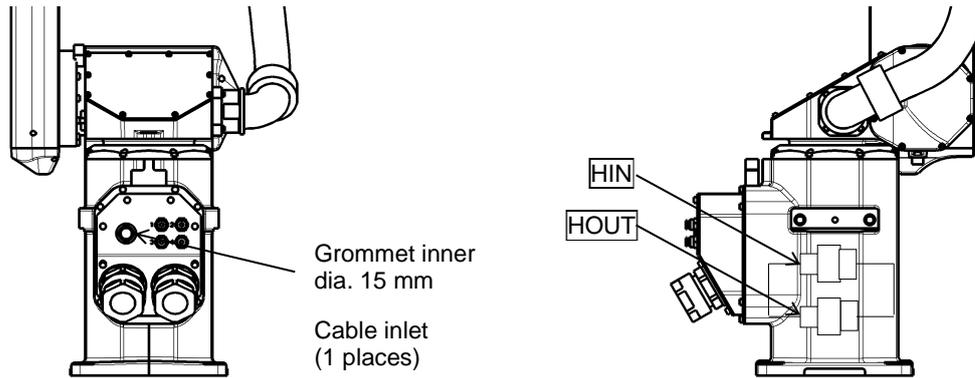

Fig. 13.1. Wiring to PLC, etc.
Four input signals are provided for sensors, etc. and four control signals for solenoid valves, etc. A supply power signal of 24 VDC is also provided. They are connected to the controller. The wiring arrangement for these cables is shown in Fig. 13.1. The wires are connected to the connectors on the arm 2 (1). The customer should provide the following connectors to connect the cables.